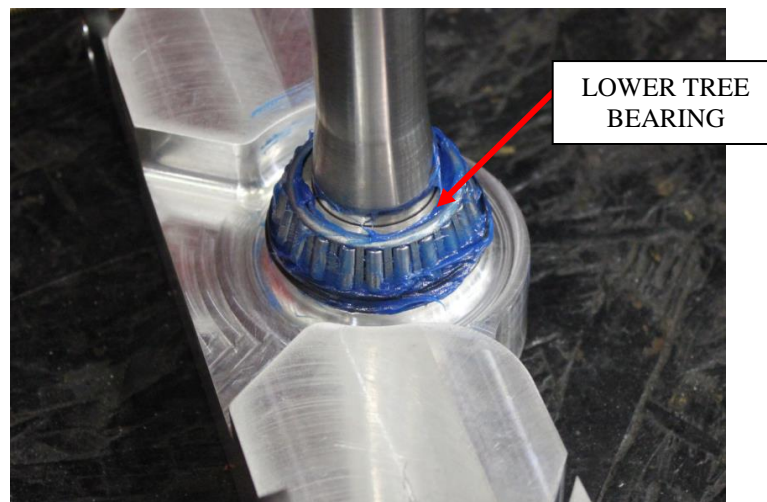

Figure 20: Grease the lower tree bearing.
2. The lower triple tree and steering stem will come assembled with the bearing and seal installed. Grease the bearing on the lower triple tree. Spin the bearing several times and reapply grease. Every roller must be completely coated with grease. See Figure 20.